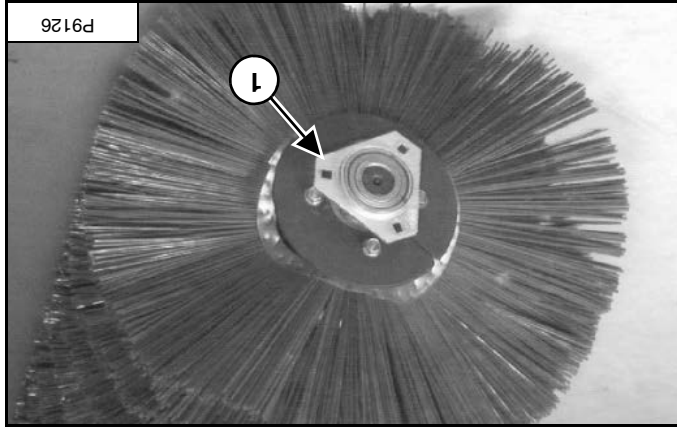

Figure 125
Remove the bearing and mounting flange (item 1) [Figure 125] from the broom shaft (both ends).